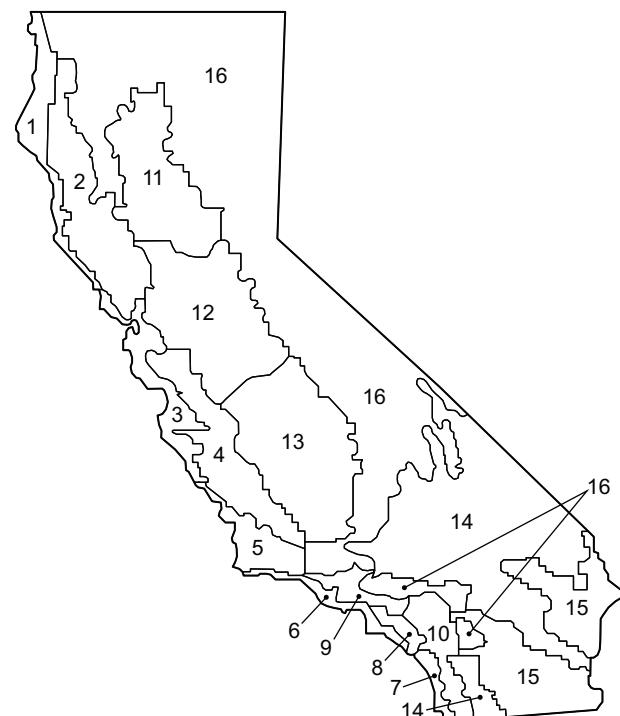

Fig. 89 — California Title 24 Zones
- b. See Fig. 89 for map of California Title 24 zones.